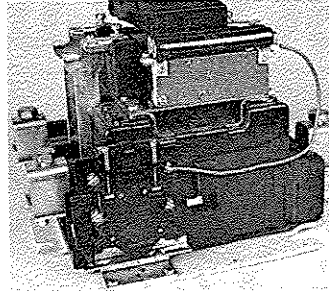

Figure 6.
2. Assemble space heater to the right-hand magnet hold-down strap as shown in Figure 6.